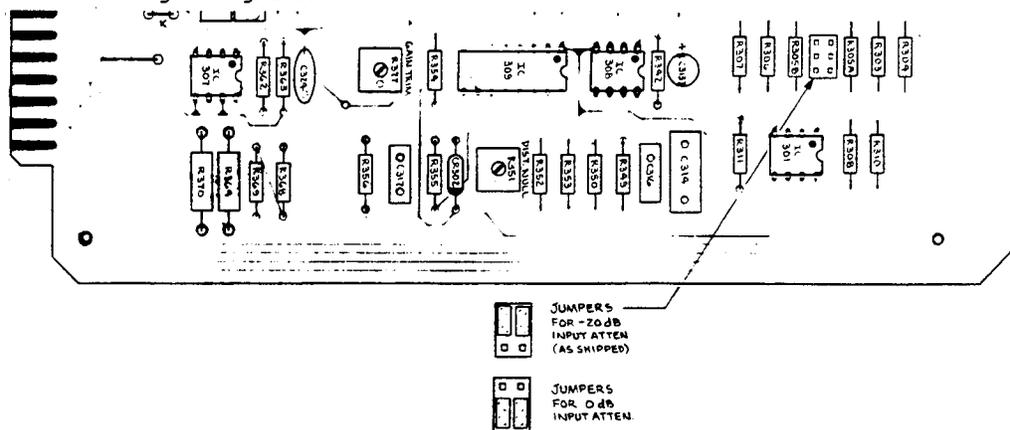

Fig. 3-3: CARDS #3 AND #4 INPUT ATTENUATOR JUMPERS
- 2) **Input Attenuator Pads:** OPTIMOD-TV is shipped with 20dB pads ahead of the input buffer amplifiers. These are located on Card #3 (left channel) and Card #4 (right channel), and are suited for nominal input levels from -10 to +10dBm. If lower input levels (from -30 to -10dBm) are present, the pads must be defeated. To do this, remove Cards #3 and #4. Reposition the jumper straps according to Fig. 3-3.
(NOTE: Jumper Cards #3TX and #4TX are shipped with 20dB pads ahead of the input amplifiers. If the readings in the L COMPR OUT position of the Main Chassis meter are too low with the INPUT ATTEN fully CW and the input pads are strapped for 20dB attenuation, restrap them for 0dB attenuation. This is done by moving the jumpers on Cards #3TX and #4TX according to Fig. 3-3. The cards and subpanel are then replaced.